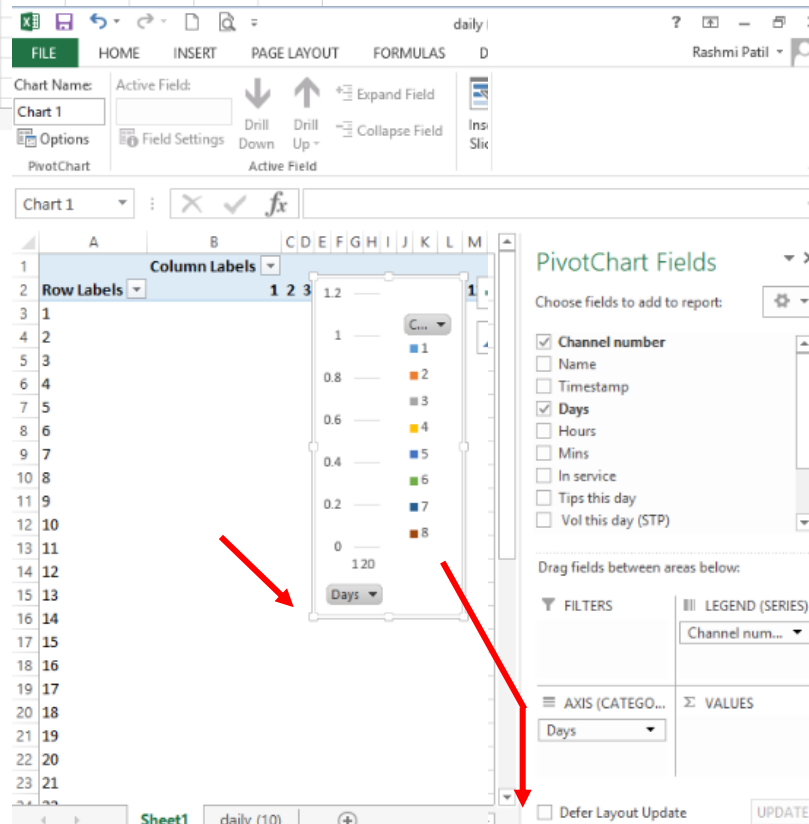

Figure 28. Creating a Pivot Chart 3.
r) Select the Pivot Chart Fields and drag that fields to the areas below (see figure 28).